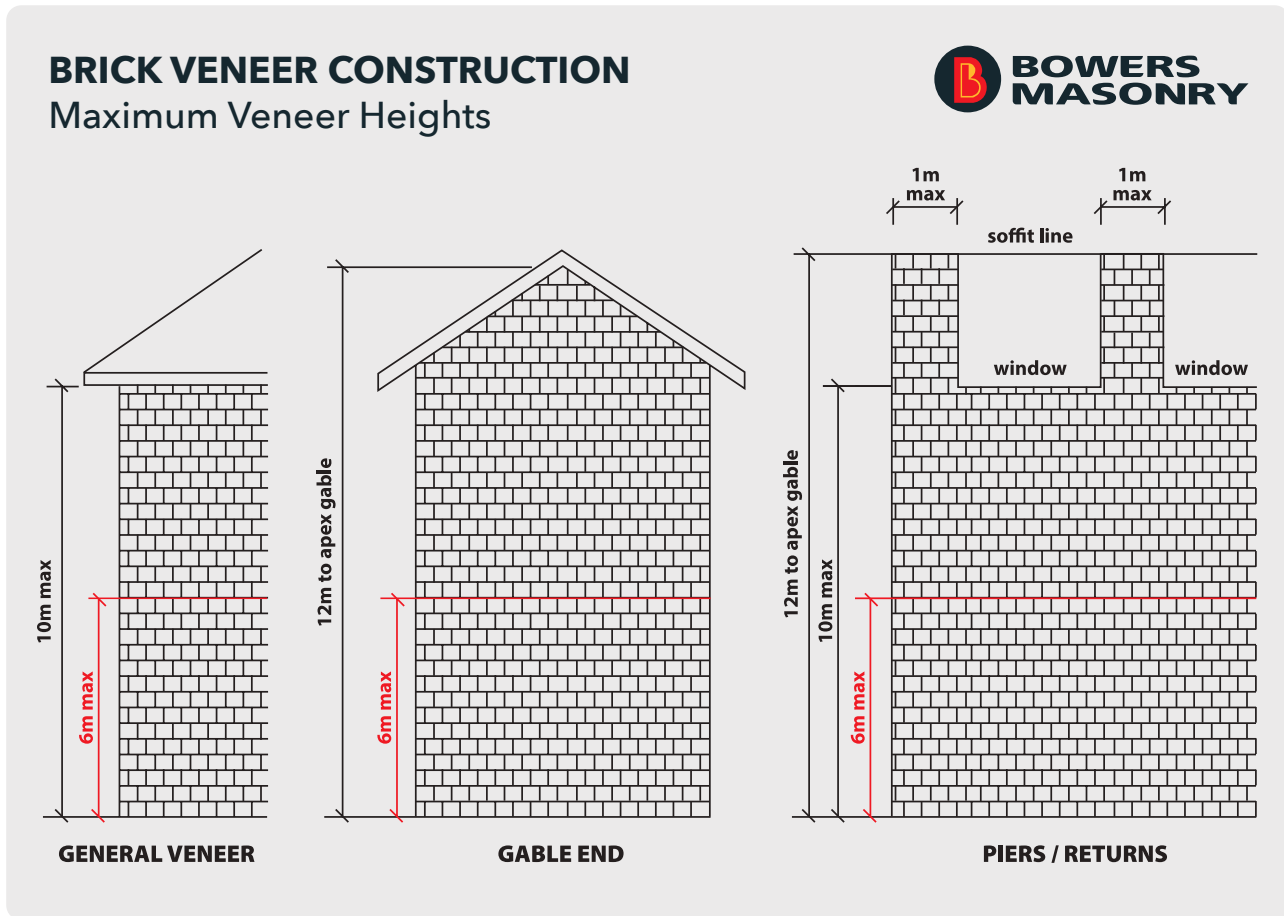

Figure 1 - Maximum Veneer Heights for three-storey running-bonded construction
- Maximum veneer height of 10.0m for straight vertical panels and 12.0m to the apex of a gable or a pier as defined in this document, in accordance with Figure 1.